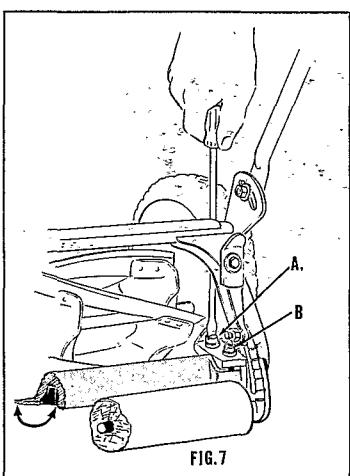

FIG.5
2. Loosen the carriage bolt nuts "A" at each end of the roller (Fig. 5).